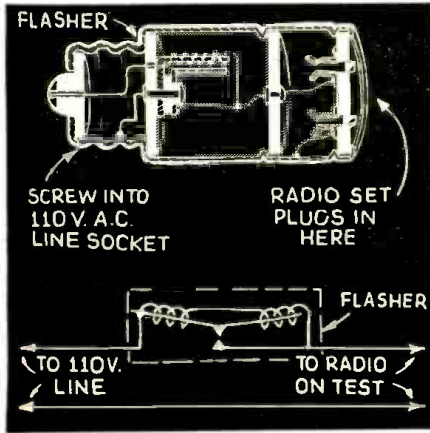

Fig. 1. Scheme for checking "intermittent" set faults.
**INTERMITTENT CURRENT FOR SET TESTING.** A very good auxiliary test for sets just repaired in the shop is to connect an ordinary heavy-duty flasher in the line to the set, for a period of an hour or more, as shown in Fig. 1.